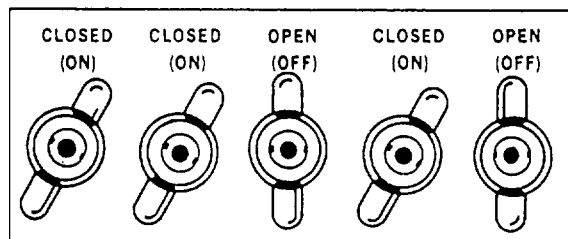

Figure 5-5.—Line cutout switches in the open and closed positions.
1. When the line cutout switches of both lines are open, the two lines will be connected together, but will not be tied in with any other station of either circuit. Figure 5-5 is an illustration of line cutout switches in the open and closed positions.